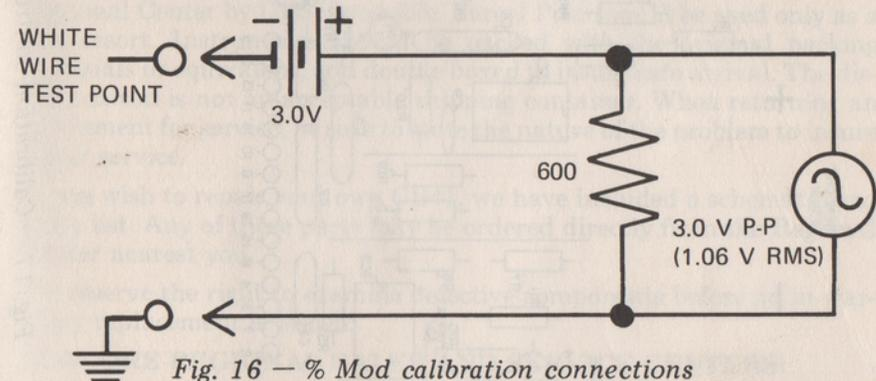

Fig. 16 — % Mod calibration connections
12. Select the Percent Modulation Function pushbutton. Apply -3.0 Volts from the battery to the white wire from the Sensor in series with 1.060 V RMS (3.0 VP-P) sine wave output from a signal generator. Be sure to connect a matching load across the generator output (typically 600 ohms). See Fig. 16. Note: The peak-to-peak AC signal voltage must be the same as the battery voltage for this calibration. If the battery voltage is other than -3.00 V, multiply the actual battery voltage by .353. This value is then the correct generator signal level, as measured with an RMS-reading meter.